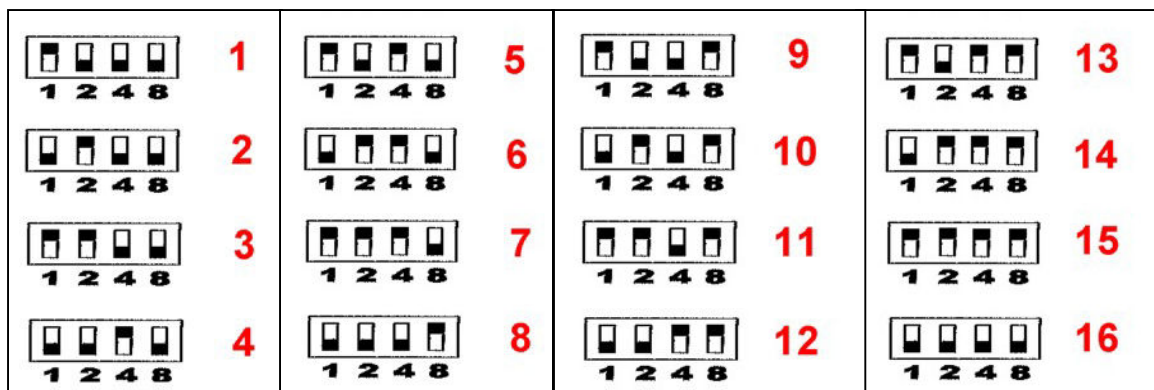

Fig. 18: Compressor Wheel Blade Setting Diagram
2. Set the gauge for your particular compressor wheel. There are 4 dip-switches on the back of the gauge. Set the switches to the correct number of compressor blades based on figure 18 below. (If you desire to use the sensor to pick up a single magnet or machined flat on a shaft, choose 1 blade, or 2 blades if there are 2 magnets or flats, etc.). See figure 17 for example setting for 12 blades. Disregard the “8-6-4” above the dip switches.